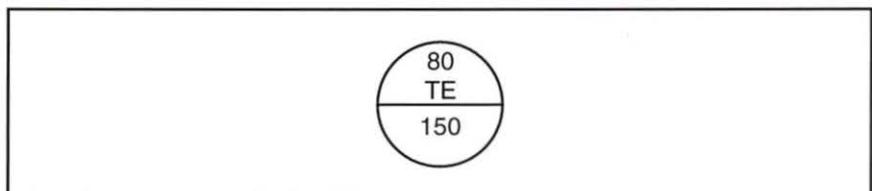

Figure 77. Instrument Tag
4. Identify the loop and area the device is in using the instrument tag in figure 77.